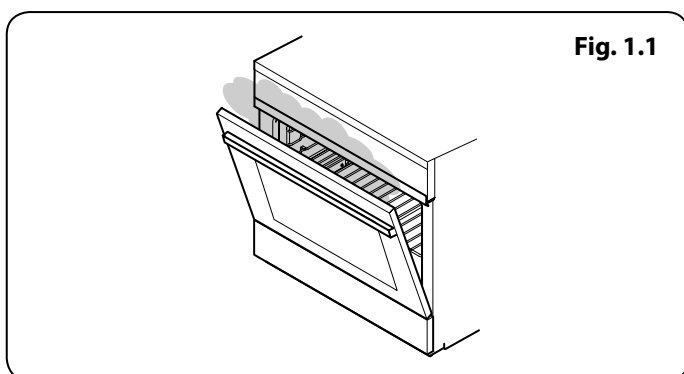

Fig. 1.1
- ⚠ Cooking high moisture content foods can create a 'steam burst' when the oven door is opened. When opening the oven door stand well back and allow any steam to disperse. Take care that no water seeps into the appliance (Fig. 1.1).**